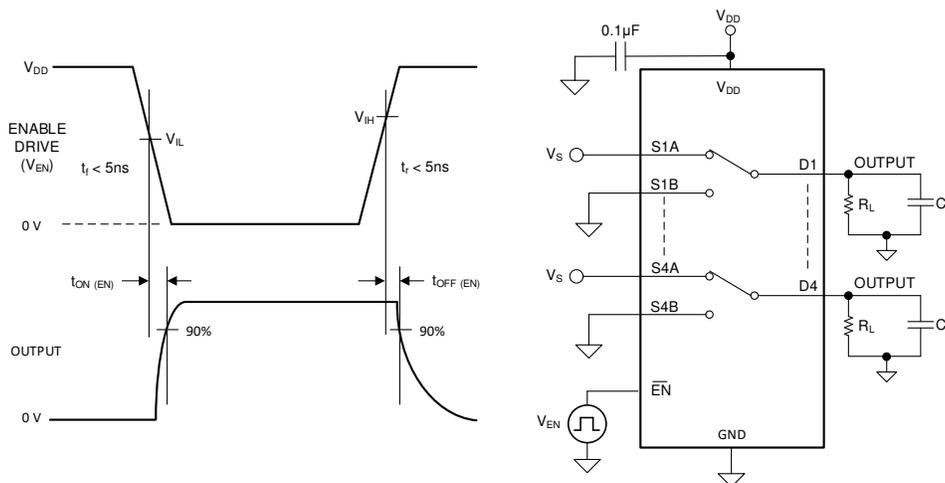

Figure 32.  $t_{\text{ON (EN)}}$  and  $t_{\text{OFF (EN)}}$  Time Measurement Setup
The  $t_{\text{ON (EN)}}$  time is defined as the time taken by the output of the device to rise to 90% after the enable has fallen past the logic threshold. The 90% measurement is used to provide the timing of the device being enabled in the system. Figure 32 shows the setup used to measure the enable time, denoted by the symbol  $t_{\text{ON (EN)}}$ .
The  $t_{\text{OFF (EN)}}$  time is defined as the time taken by the output of the device to fall to 90% after the enable has fallen past the logic threshold. The 90% measurement is used to provide the timing of the device being disabled in the system. Figure 32 shows the setup used to measure enable time, denoted by the symbol  $t_{\text{OFF (EN)}}$ .